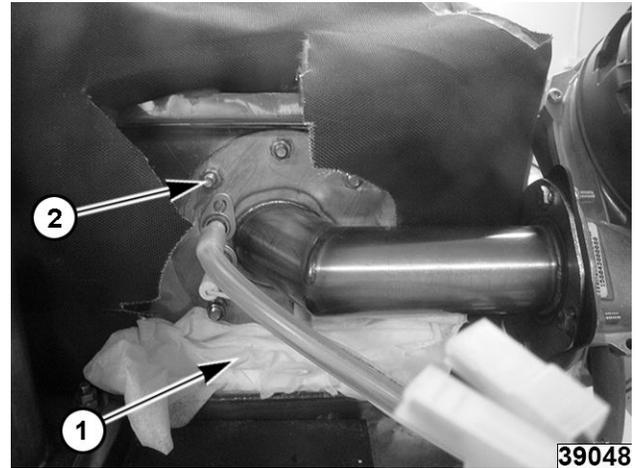

Fig. 99
NOTE: Place a clean rag (1, Fig. 99) over the open area to avoid nuts falling to where they can't be retrieved.
4. Remove (6) 8mm mounting nuts (2, Fig. 99).